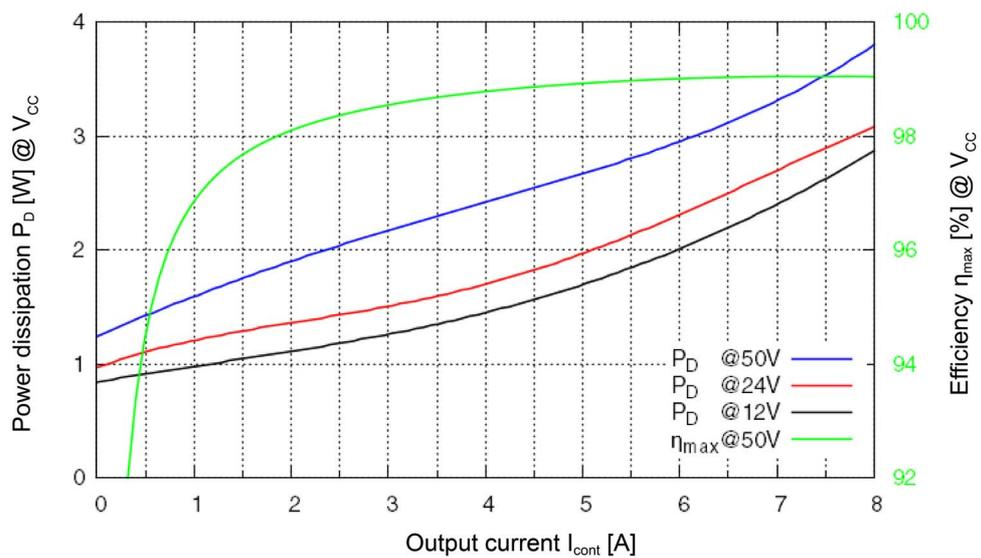

Figure 2-1 Power Dissipation and Efficiency
Extended range ^{*1)}	Module 50/8: +45...+85 °C Module 50/8 HE: +65...+92 °C Derating → Figure 2-1
2) →Figure 2-1